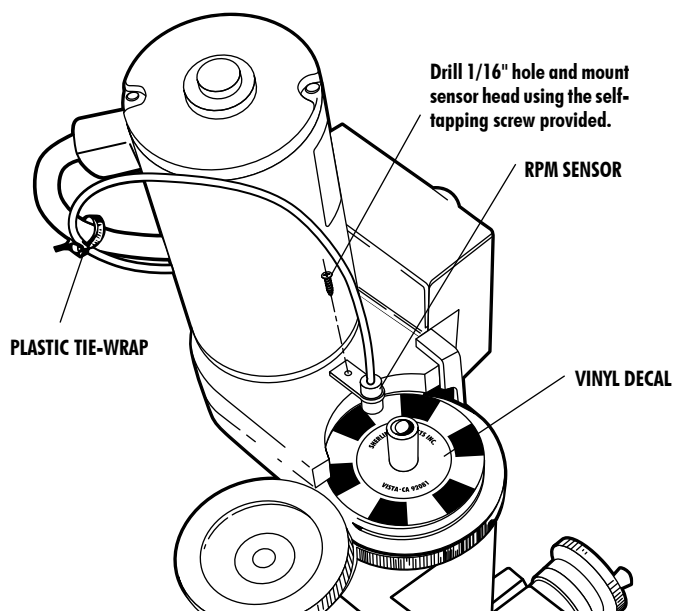

FIGURE 86—Mounting the sensor to the belt housing in the mill configuration. The mounting position would be the same in the lathe configuration.
3. Locate the RPM sensor by holding it in the position shown in Figure 86. Mark the center of the hole on the plastic belt housing and drill a 1/16" hole. Fasten the sensor to the belt housing using the self-tapping screw provided. (Do not overtighten or you can strip the threads.) A plastic tie-wrap is provided to secure the sensor lead to the motor's power cord to keep it out of the way.